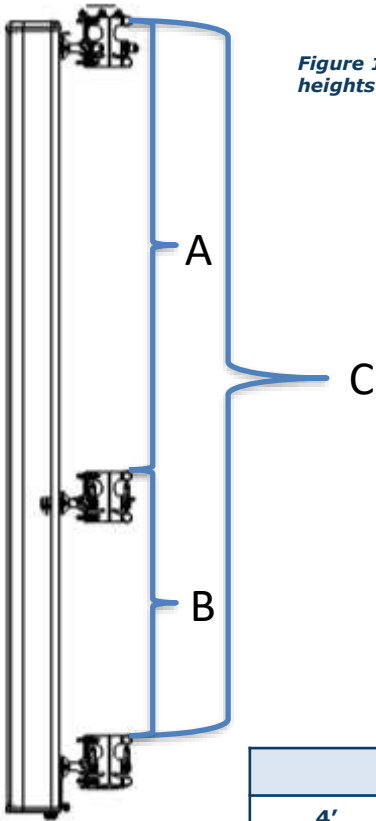

Figure 10: Bracket heights
8. Measure "A" in. from top edge of top bracket and mark along the circumference of the pole. See *Figure 10* and *Table 6*.